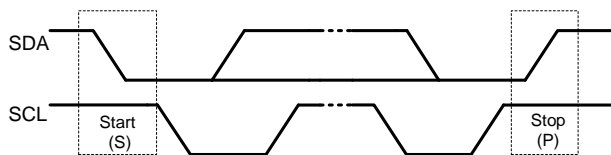

Figure 14: Start and Stop Commands
All transactions begin with a start (S) command and are terminated by a stop (P) command. Start and stop commands are always generated by the master. A start command is defined as a high-to-low transition on the SDA while the SCL is high. A stop command is defined as a low-to-high transition on the SDA while the SCL is high (see Figure 14).